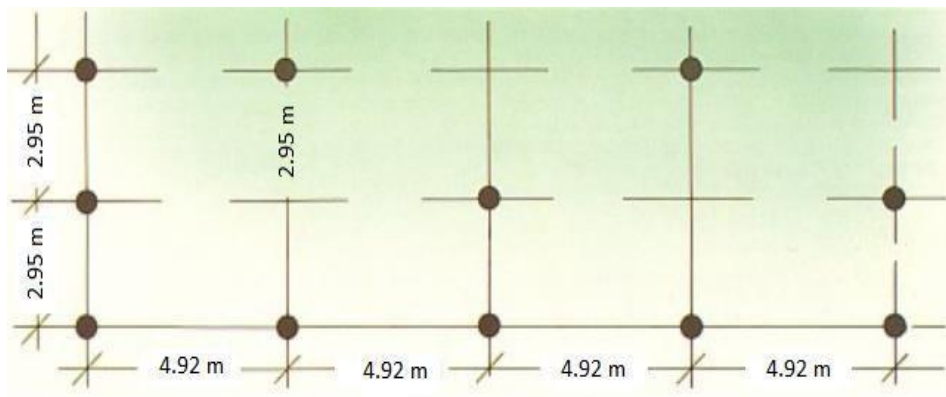

Fig 1: Orientation of poles
- Configurations (distances between the poles = 5m x 3m) are as shown in Figure 1&2